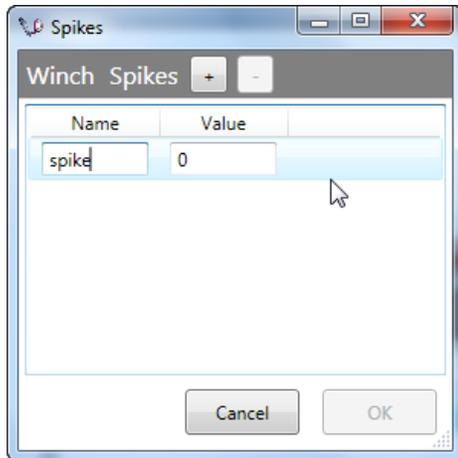

Figure 298
6. A new Spike will be added with the generic **Name** of “spike” and a **Value** of “0” (Figure 298).